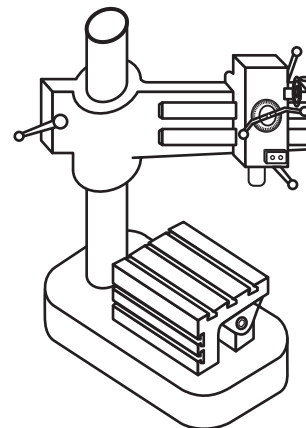

Figure 10-43 Identify this industrial drill press.
5. Name the type of drill press shown in Fig. 10-43.